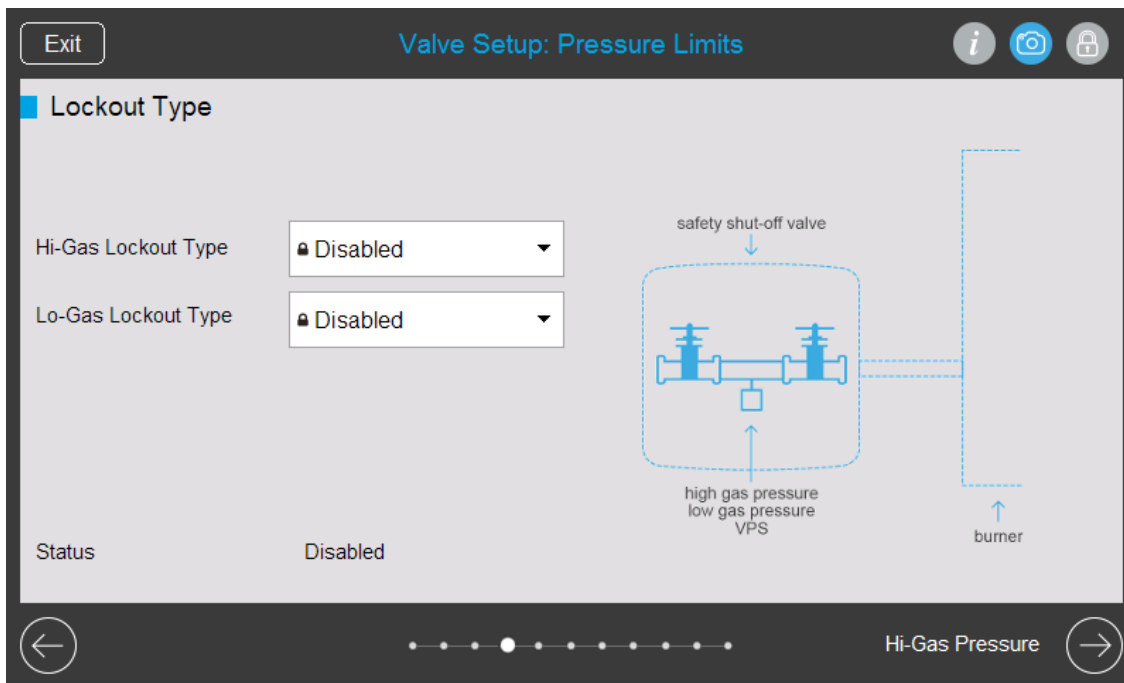

Fig. 14. Guided Valve Setup – Pressure Limits.
- If the Pressure Module will not be used or setup, you may skip this step as well as the following 7 steps for the Pressure Limits, Hi-Gas, Lo-Gas, Summary and Test as well as the Valve Proving Sequence Setup and Test. Refer to Figs. 14 to 20.
Proceeds to the Pressure Limits section. Refer to Fig. 14.
Indicates current status of the attached Pressure Module. Can be either Disabled or Enabled. This status reflects the Hi-Gas and Lo-Gas Lockout selections on the Pressure Limits page. Refer to Fig. 14.
Returns to the Pressure Limits page. Refer to Fig. 14.
**Status** Indicates current status of the attached Pressure Module. Can be either Disabled or Enabled. This status reflects the Hi-Gas and Lo-Gas Lockout selections on the Pressure Limits page. Refer to Fig. 14.